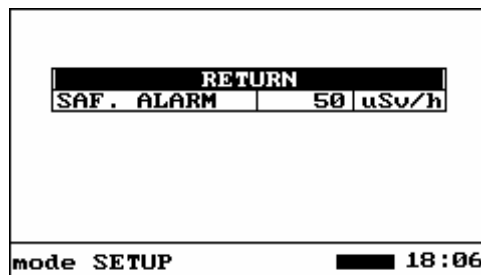

Figure 21. Alarm threshold total dose rate specifying menu
1.3.3.6.7. Radiological safety alarm threshold dose rate values are set in “SAFETY ALARM” submenu (Fig.21).